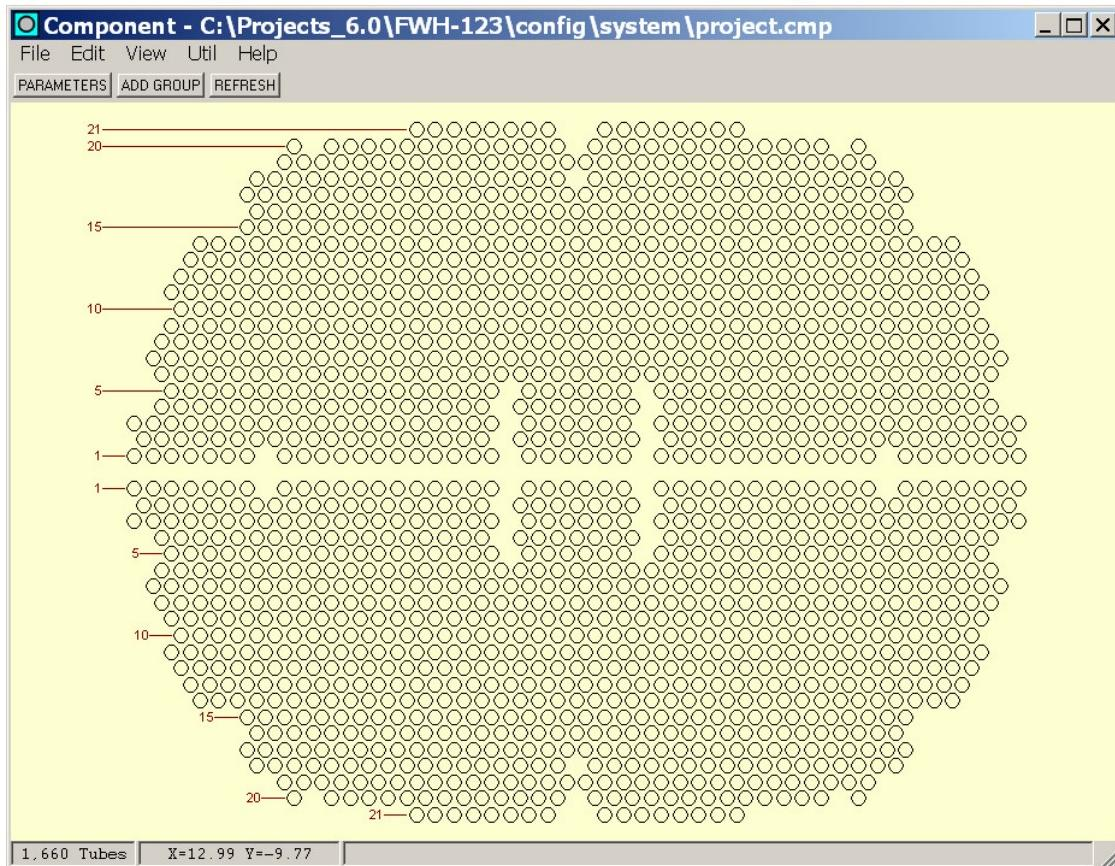

Figure 48. Popup Menu | Row Ticks | Align Group
- **Align Group** causes the row ticks to line up as shown on the upper half of the tubesheet map in Figure 48. Note that the lower half of the tubesheet map remains *unaligned*. If the row ticks are already aligned (*see Edit | Auto Compute Ticks discussed earlier*), selecting this function will have no apparent effect. To use, right-click the group of tubes you wish to align the row ticks for and then select **Row Ticks | Align Group** from the **Popup** menu.